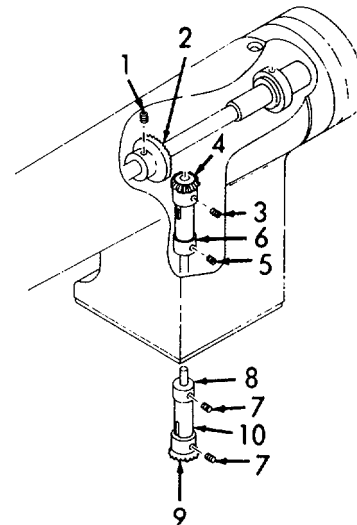

Figure 6-105. Vertical Shaft Assembly, Installation.
e.. *Installation (Refer to Figures 6-105 and 6-106).*
- (1) Refer to Figure 6-105. Install lower vertical shaft gear (9) flush on bottom of vertical shaft (10) and tighten two setscrews (7).
- (2) Lightly oil and insert vertical shaft (10) into lower bushings. Install, but do not tighten collars.
- (3) Install top vertical shaft gear (4) flush with top of vertical shaft (10) and tighten two setscrews (3).
- (4) Move top shaft gear (2) to mesh with shaft gear (4) and tighten two setscrews (1).